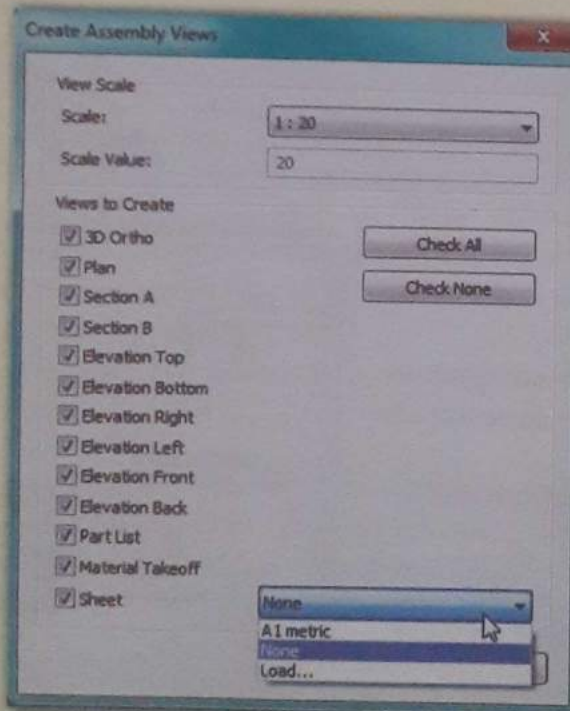

Figure 109: Create Assembly views
8. Near the sheet option drop down the arrow mark and load A4 sheet from the library. Click OK to close the dialog box (Figure 109).
- c. Select each part and enable show shape handles from the instance properties.(Figure 109).
- d. Blue handles appears on the parts. Resize the parts using blue handles.(Figure 109).
f. Click finish icon from the edit assembly panel.(Figure 109).